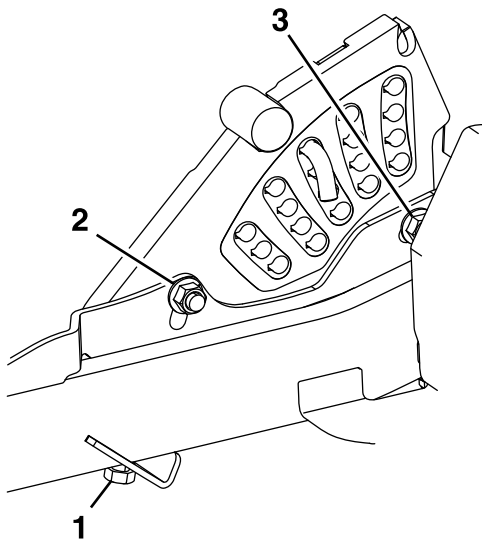

Figure 77
7. If the deck is too low, tighten the single-point adjustment bolt by rotating it clockwise (Figure 77).